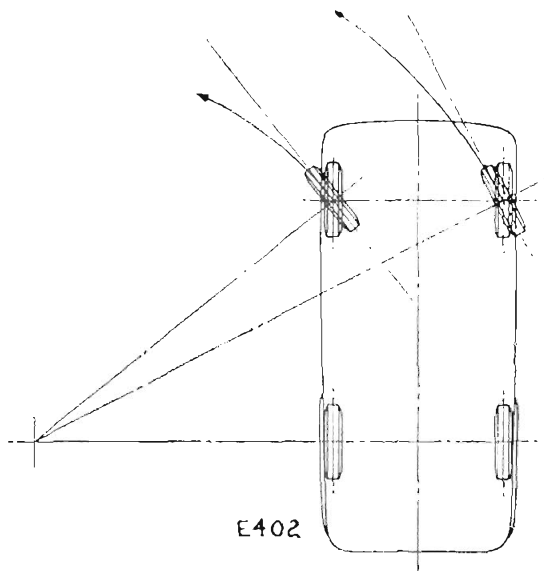

Fig. 34. Showing the relative angles of the front wheels when making a turn
**Toe-out on Turns (Fig. 34)**